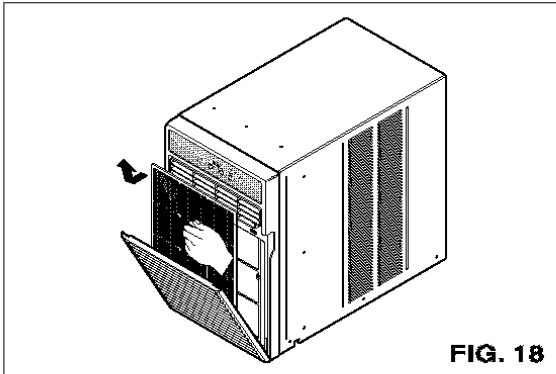

FIG. 18
- Pull the inlet grille forward, grasping both tabs, then pull out the air filter. (FIG. 18)